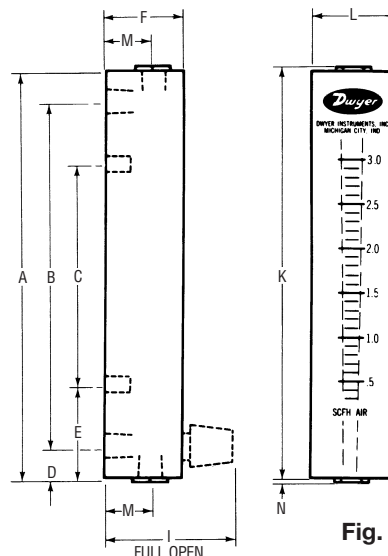

Fig. 1
**Dwyer Visi-Float® Series Flowmeters** are furnished in two models (see Figure 1) each available in a broad choice of flow ranges with direct reading scales for air, gas or water. Installation, operation and maintenance are very simple and only a few common sense precautions must be observed to assure long, trouble-free service.
**Surface Mounting:** Drill appropriate holes in panel using the dimensions shown in Figure 1. Hold the flowmeter in position in front of the panel and install the mounting screws through the panel from the rear. Mounting screws must not be longer than the panel thickness plus 1/4", or the screw will hit the plastic and may damage the meter. The screws will require additional force during the initial installation, since the insert boots are of a col-
**Surface Mounting on Piping Only:** An alternate method of surface mounting is by omitting the mounting screws and supporting the Visi-Float® Flowmeter on the connecting piping only. For this method extra long or straight pipe threads should be used so that nuts may be run onto the pipe and later tightened against the back of the panel to retain the unit in proper position. Use the appropriate hole layout information from Figure 1, but omit the small holes.